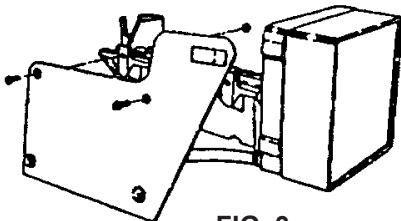

FIG. 3
3. When replacing certain ice makers there will be a mounting plate as an integral part of the defective unit. This must be removed and attached to the W10190965 (Figure 3).